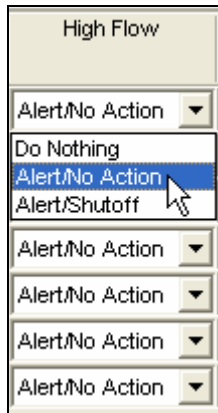

Figure 16.3.17A
12. Next using the drop down arrow for each box select the **High Flow Action** alert of your choice (Figure 16.3.17A).